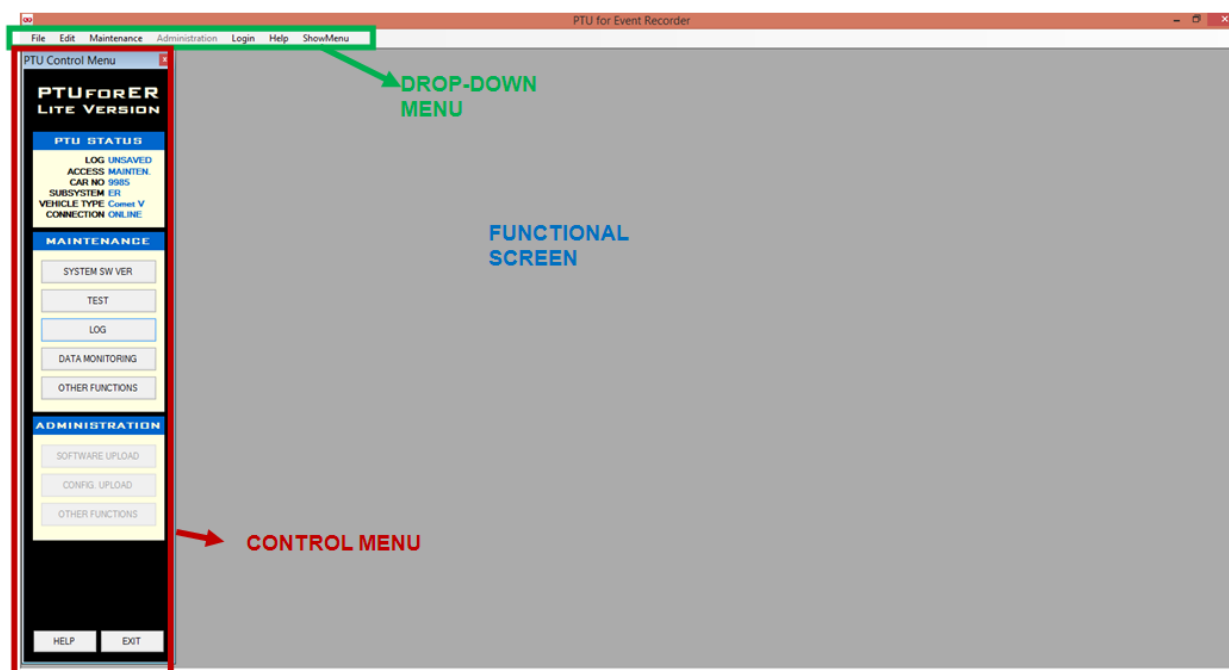

Figure 8-4: PTUforER-Lite Home Screen
See Figures 8-4 through 8-8.
2. When the application is loaded, the home screen shown in Figure 8-4 appears.